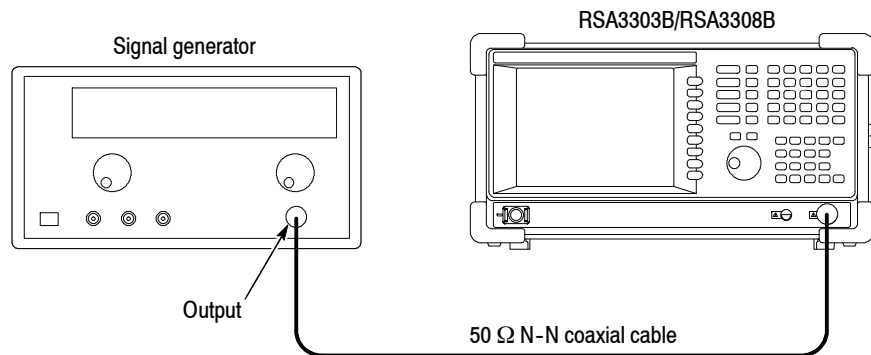

Figure 3-14: Initial test hookup
- d. *Hook up the signal generator:* Connect the generator output through a 50 Ω N-N coaxial cable to the analyzer **Input**. See Figure 3-14.